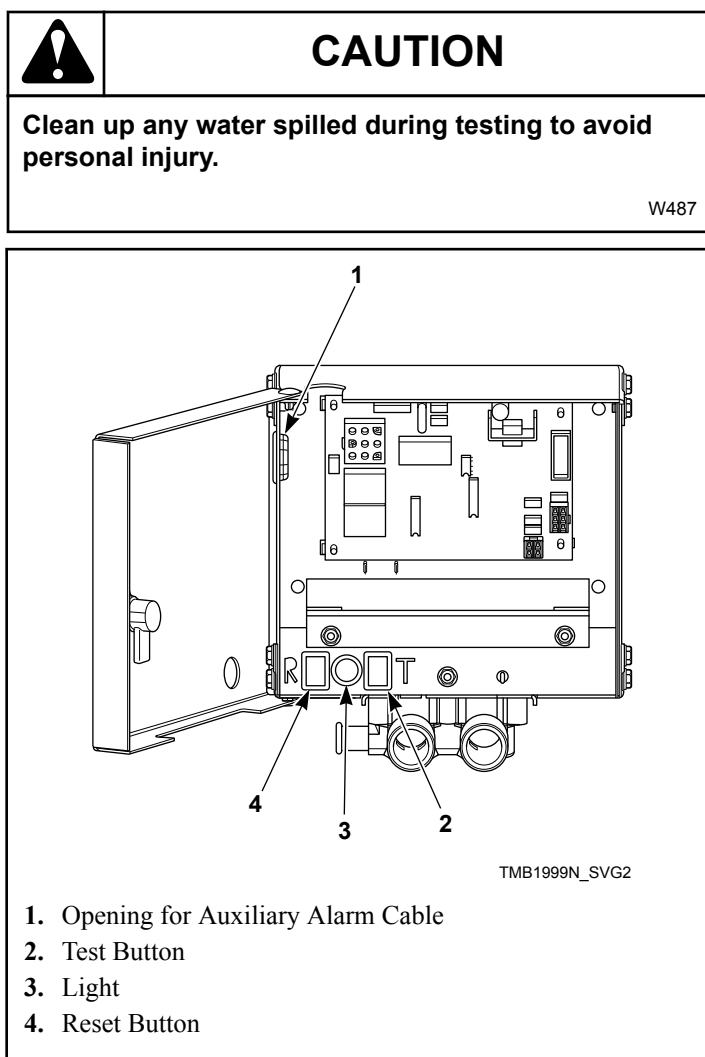
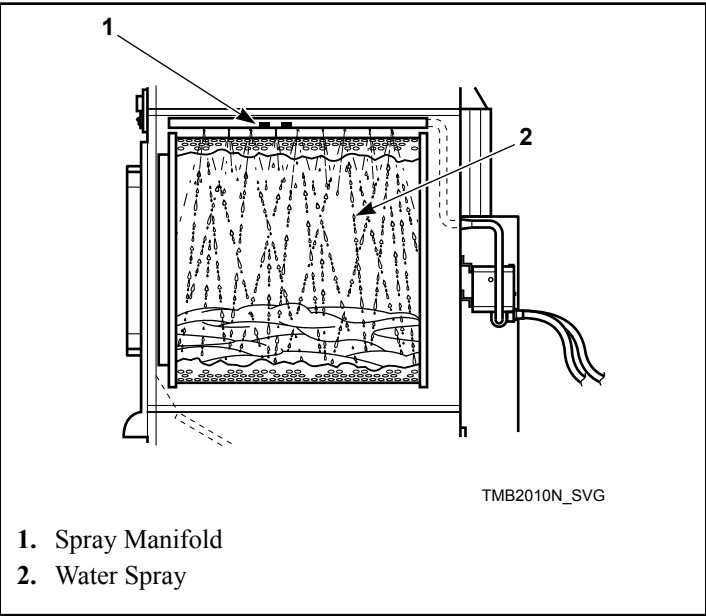

Figure 70
Figure 71
6. Press and hold the test button, verify the light is on, this should take approximately five seconds. Refer to *Figure 70*. After a one-second pause water should begin to spray into the cylinder.
7. After 15 seconds of water spray, press and hold the reset button until water spray is off and light is off. This should take approximately one second. Refer to *Figure 70* and *Figure 71*.